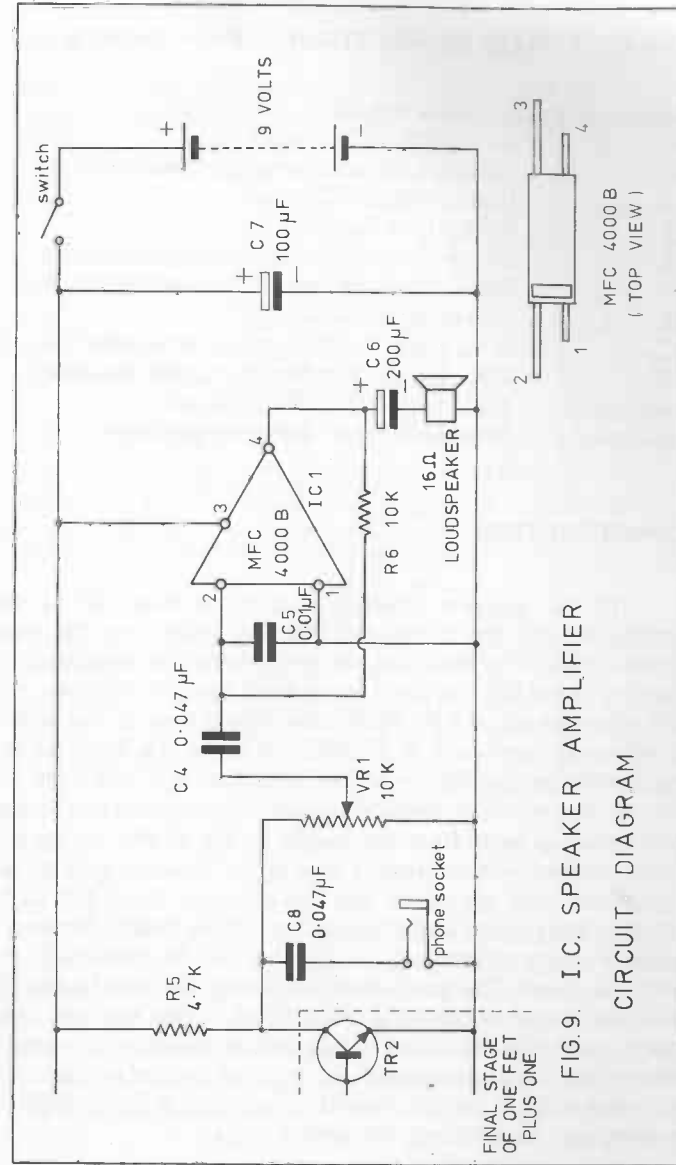
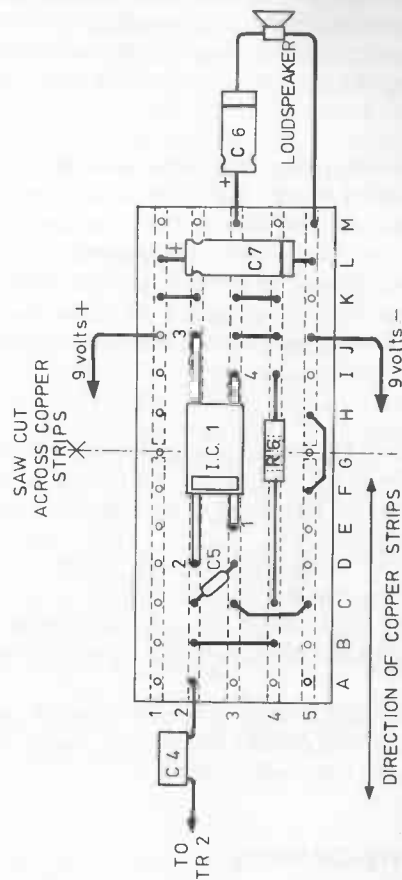

FIG. 9. I.C. SPEAKER AMPLIFIER
FIG. 10. I.C. AMPLIFIER - VEROBOARD LAYOUT (PLAINSIDE).
The I.C. used in this receiver will perform the task of a complete audio amplifier capable of delivering about a quarter of a watt of audio output to a loudspeaker. All of this is done by a small black block, measuring no more than $\frac{1}{4}$ " by $\frac{1}{8}$ ", aided by a handful of discreet components. The I.C. is the MFC 4000B and an idea of it's appearance can be gained from Fig.9.
Fig.9. shows the circuit diagram of the I.C. speaker amplifier attached to the audio stage of the F.E.T. Plus One Receiver. The headphones have been replaced by R5. The audio signal passes from the junction of TR2/R5 to VR1. VR1 is a variable resistance which acts as a volume control by allowing all or part of the audio signal to pass to C4.
The I.C. speaker amplifier is built up as a unit on the veroboard, and the completed board is added into the main chassis later. The first stage is to prepare the veroboard. A piece of board is cut to allow the use of 5 holes by 13 holes - this will measure about 1.3" x 0.6". The board may be cut with a sharp small hack-saw. It is useful to score the lines on the copper clad side with a marking knife first, and cut from the copper clad side. This helps to prevent the edges of the copper strips pulling away from the board. In Fig.10 the matrix has been marked with a number and letter location grid to aid identification of each hole. For this circuit, a break has to be made in the copper strips across the whole board, forming a break in every strip along line G. This can be done with the small hack-saw. The saw is held level along the line of holes (G) and the copper is carefully sawn away. When this has been done check that the edges of adjacent strips are not touching where they have been sawed. If a strip has twisted and touches the next strip, it can be moved by running a knife edge (or screwdriver edge) along the plastic track.
1. the board matches the circuit diagram, Fig.9.
2. the board matches the layout plan, Fig.10
3. the I.C. pins are soldered in the correct places and the electrolytic capacitors are wired with the correct polarity, Fig.9 and Fig.10.